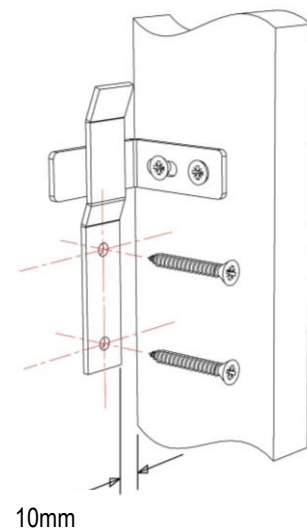

Figure 2
3. With the mantel in position. Lightly scribe the wall in line with outer edges of the mantel. Lift the mantel away from the wall. Measure inwards from the previously scribed line the thickness of the mantel leg plus 10mm. See Fig.2.
4. Fix the wall brackets (C) in place using the appropriate fixing dependent on the type of wall (Fixing are not supplied). Ensure mantel brackets (B) will fall halfway between the folds on the wall brackets (C). See Fig.2.
6. Lift the mantel onto the wall brackets (C) and confirm it is securely held in place. If any adjustment is required take the mantel off the wall and adjust using the slots on the mantel brackets (C).